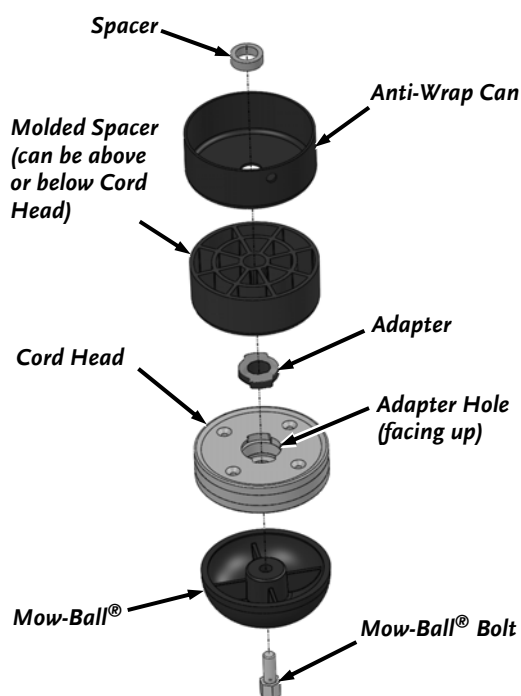

Figure 32
8. Slide the Cord Head, Adapter and Molded Spacer off the Shaft (**Figure 32**).